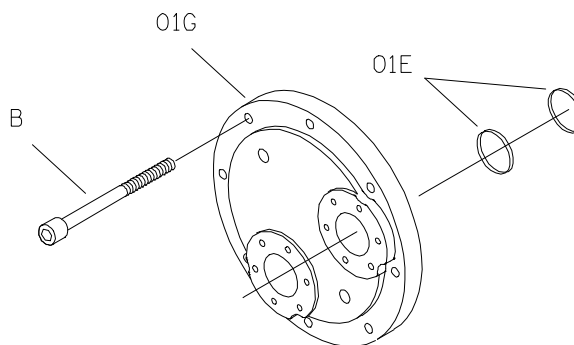

Figure E-3. Typical T Size Head Jacket
If your pump is equipped with an optional head jacket, see Figure E-3 and remove the capscrews (B) securing the head jacket (01G) and O-rings (01E) to the head assembly (01A, Figure E-1).